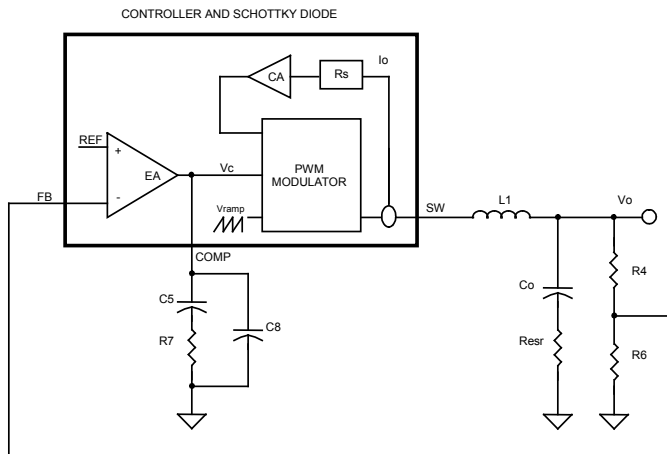

Figure 7. Block diagram of control loops
The block diagram in Figure 7 shows the control loops of a buck converter with the SC4524D. The inner loop (current loop) consists of a current sensing resistor ($R_s=5.5m\Omega$) and a current amplifier (CA) with gain ($G_{CA}=18.5$). The outer loop (voltage loop) consists of an error amplifier (EA), a PWM modulator, and a LC filter.
For a converter with switching frequency F_{SW} , output inductance L_1 , output capacitance C_o and loading R , the control (V_c) to output (V_o) transfer function in Figure 7 is given by: